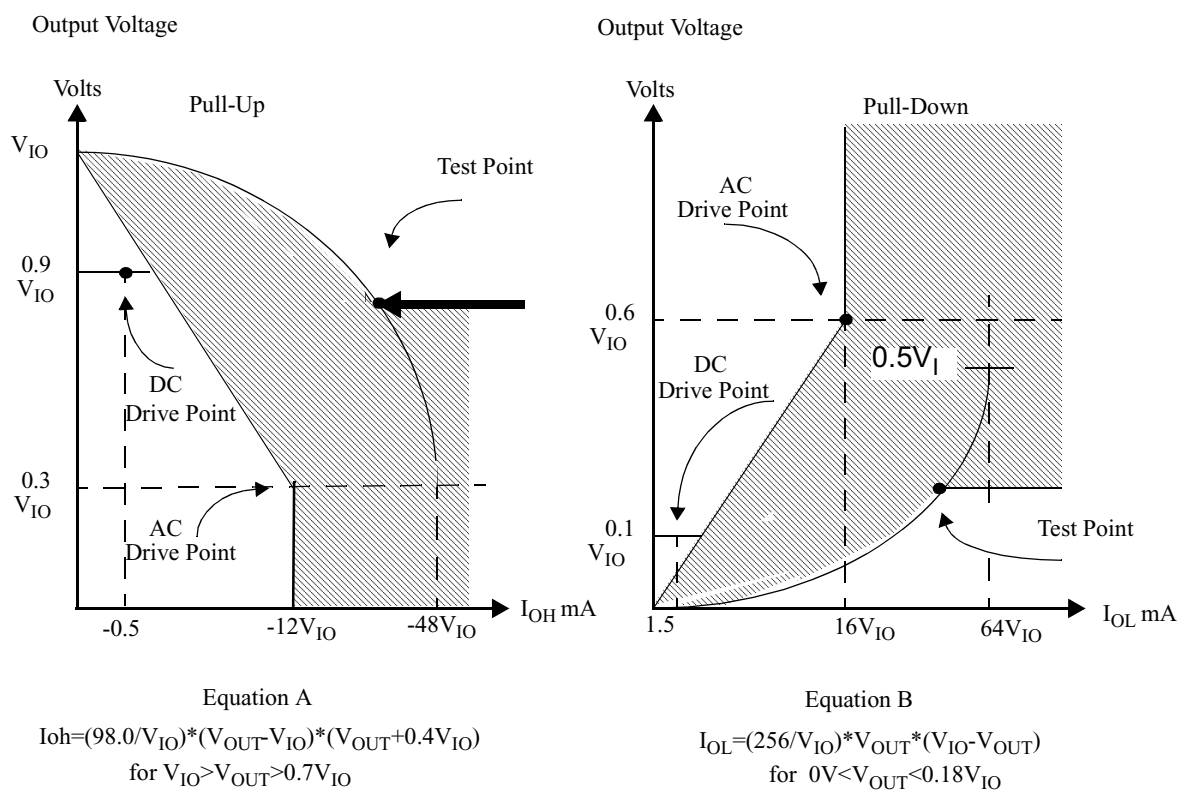

Figure 7-11 V/I Curves for PCI Output Signals
1. Refer to the V/I curves in Figure 7-11. This specification does not apply to PCICLK0, PCICLK1, and  $\overline{\text{PCIRST}}$  which are system outputs.
2. Maximum current requirements are met when drivers pull beyond the first step voltage. Equations which define these maximum values (A and B) are provided with relevant diagrams in Figure 7-11. These maximum values are guaranteed by design.